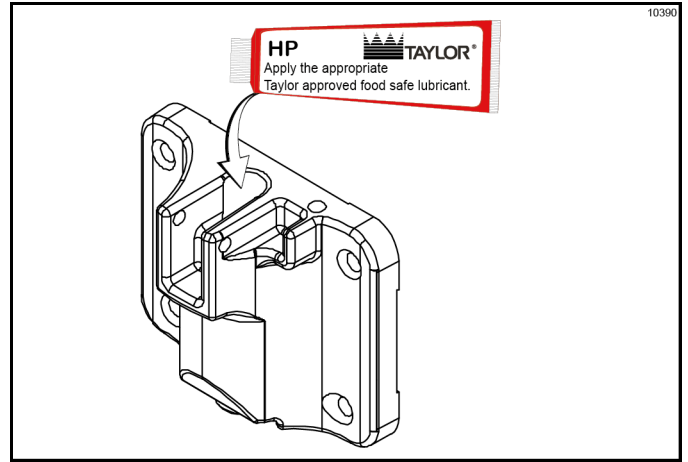

Figure-136
- Lightly lubricate inside of the top of the freezer door valve cavity. (See Figure-136.)